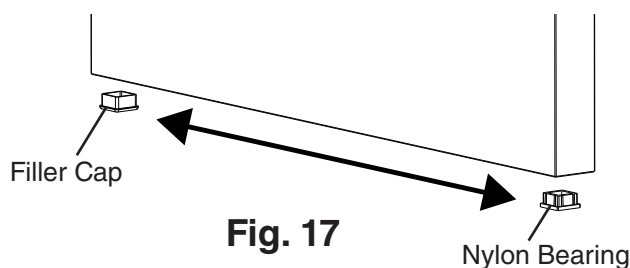

**Fig. 17**
- 10) Remove the filler cap and nylon bearing from the bottom of the door. See Fig. 17. Reinstall on the opposite side.